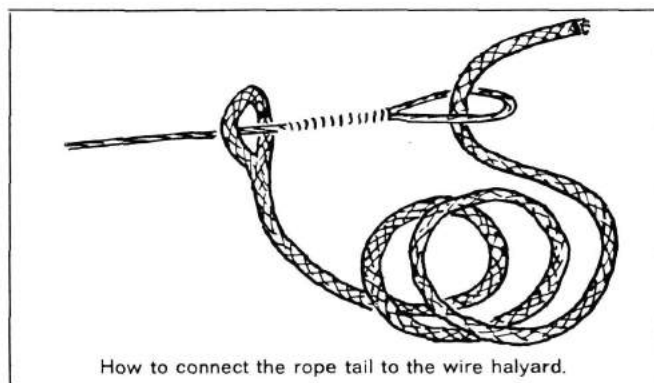

Fig. 8
2. The soft eye on the jib halyard — the other end carries a snap shackle — is put over the sheaves at the top of the mast on the same side as the jib halyard winch with the soft eye on the aft side. The rope tail is then attached to the wire halyard so that the two form a reef knot (fig. 8).